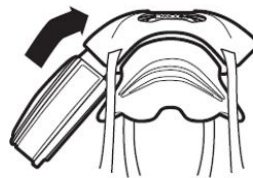

Fig. 7
3. If the cartridge does not “click” into place when inserted it may be due to the angle of insertion. Lift up slightly on the cartridge until the cartridge clicks into place (Fig. 7).